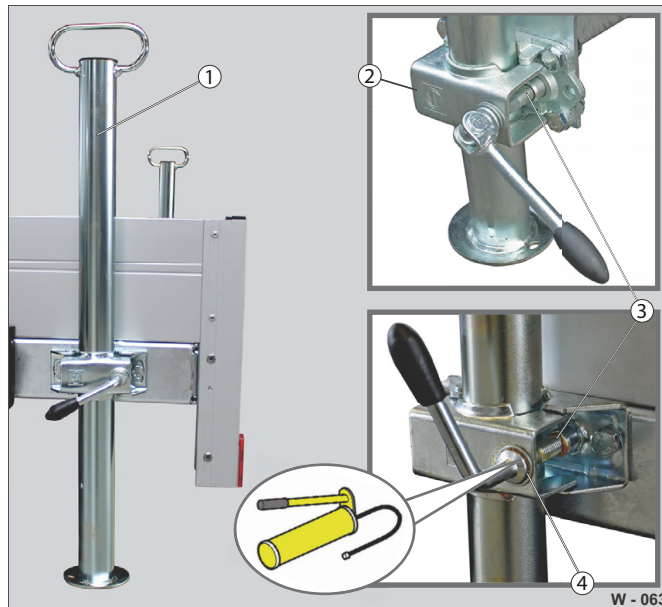

Fig. 59 Prop stands: Lubrication points
The cylinder body (Fig. 59 /1) outside and the clamp (Fig. 59 /2) may not be greased!
- Unscrew the T-handle screw (Fig. 59 /3) and open the clamp (Fig. 59 /2).
- Lubricate the T-handle screw on the thread and washer (Fig. 59 /4).